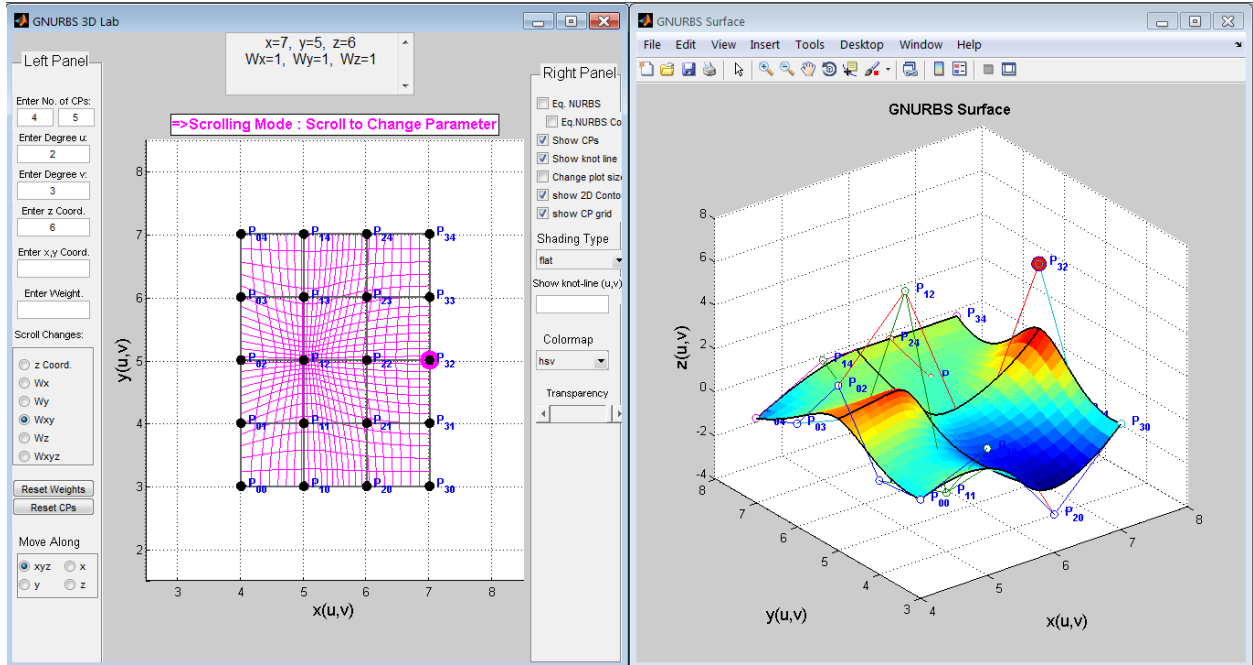

Figure 7: Changing the z coordinate of “P32” to 6.
The parameters of a control point in the scrolling mode can also be changed from the left panel of the 2D window. The  $z$  coordinate of each CP can be changed by right clicking on it in the 2D window (*Scrolling Mode*) and typing the desired value in the “Enter  $z$  Coord.” Field (5). As an example, in Figure 7, the  $z$